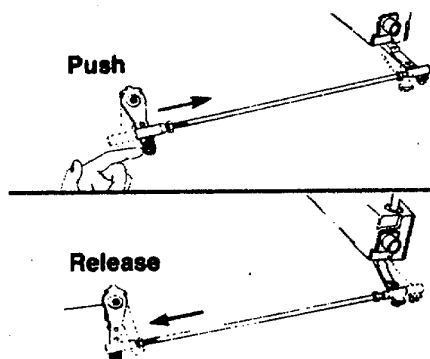

FIGURE 3-11. Low Idle Position Check.
- (5) Manually push the actuator to the full position. When released, it should return to the low idle position without binding or obstructions. (FIGURE 3-11)
- (6) Stop generator set.(TM 55-1905-223-10)